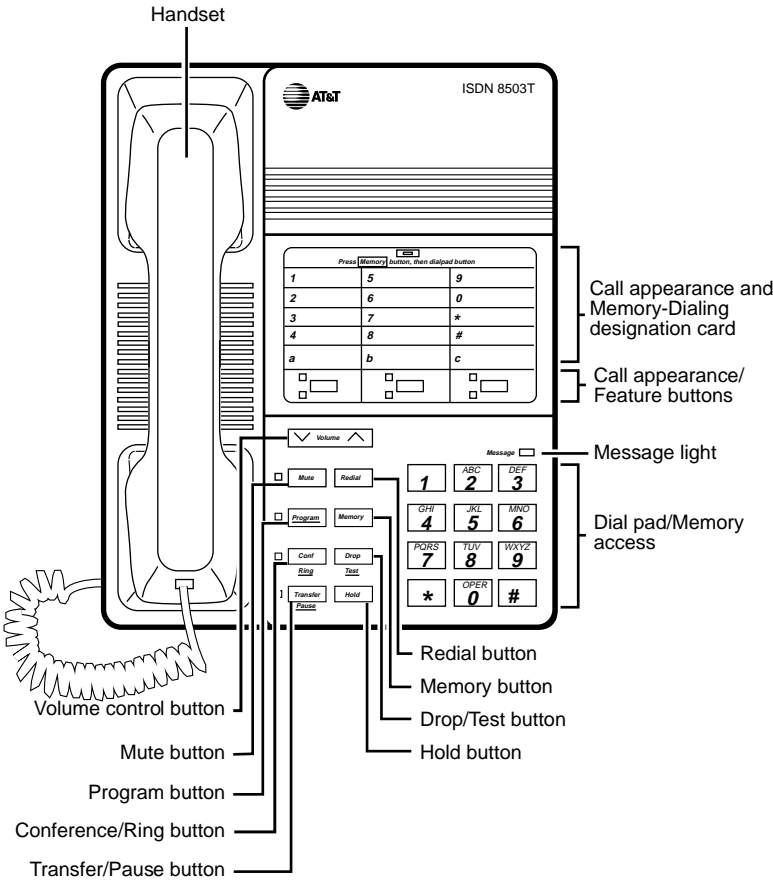
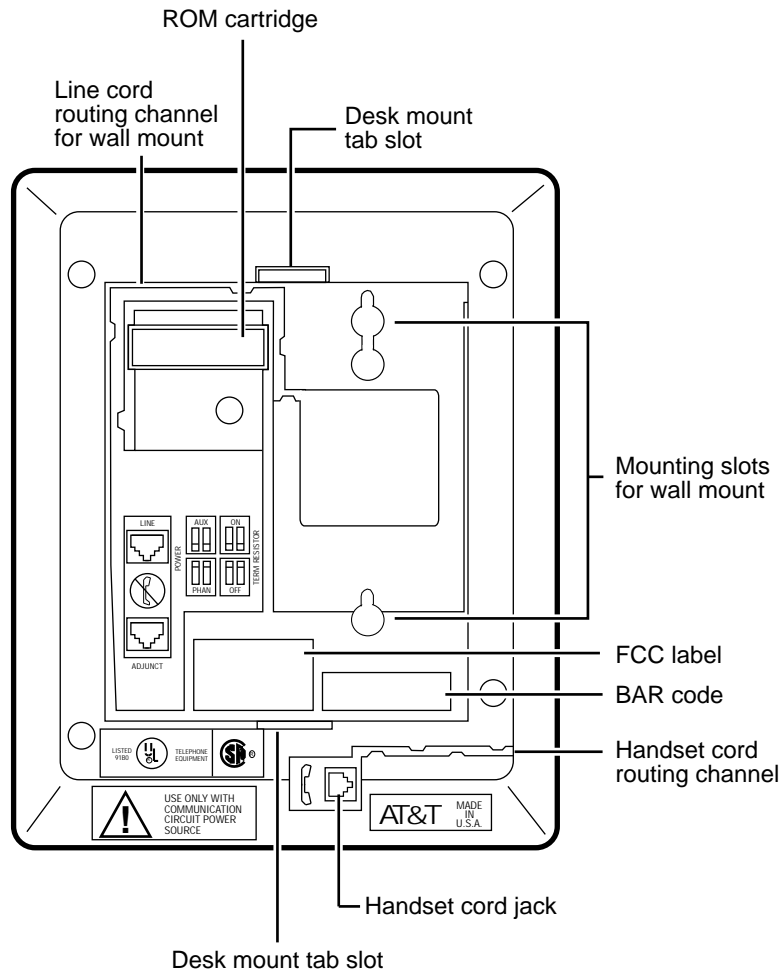
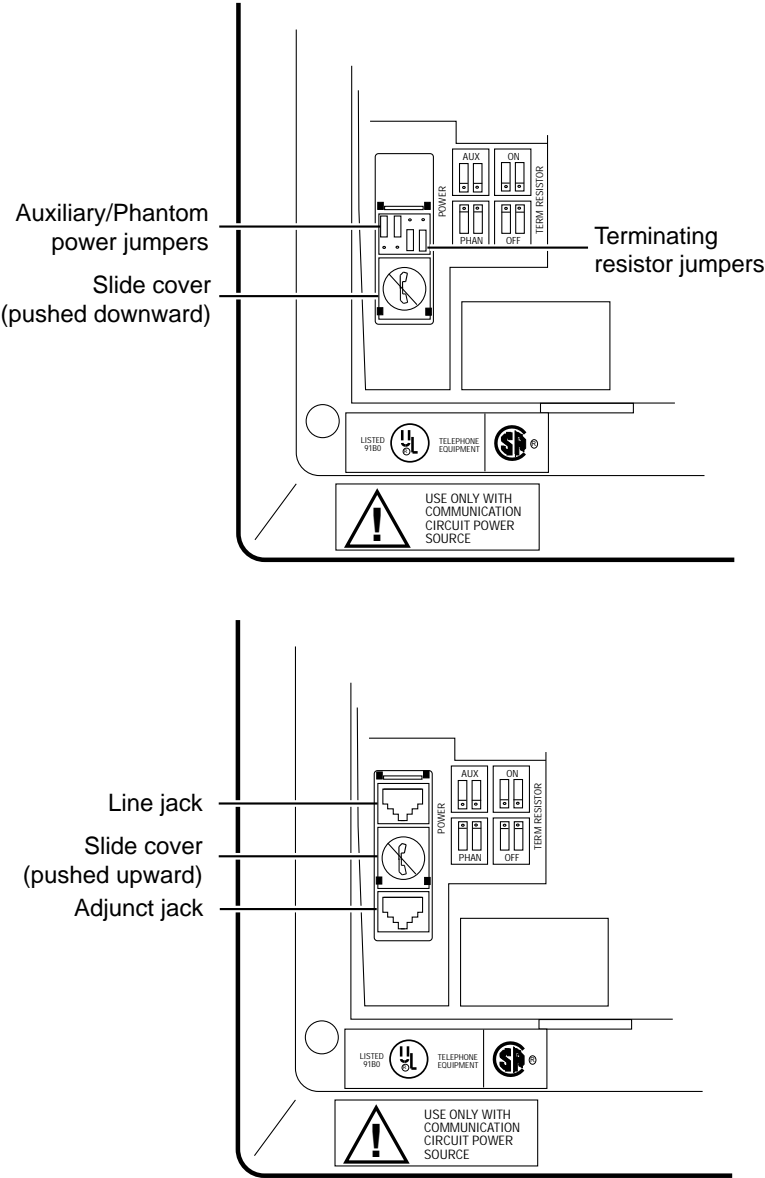

FIGURE 7-1. Front View of the 8503T Voice Terminal
FIGURE 7-2. Back View of the 8503T Voice Terminal (without Desktop Stand)
FIGURE 7-3. Back View of the 8503T Voice Terminal (Magnified)
Figure 7-1 shows you the front of the 8503T voice terminal. Figure 7-2 shows the back of the voice terminal without a desktop stand. Figure 7-3 shows a magnified view of the back of the voice terminal.
6. Snap one end of the 7-foot line cord into the Line jack and the adjunct cord (if applicable) into the Adjunct jack on the back of the voice terminal. See Figure 7-2 for the location of the jacks. For more information on installing adjuncts, refer to “Attaching Adjunct Equipment” later in this section (be sure you use the directions for the 8503T).
2. Snap the adjunct cord into the Adjunct jack until you hear a click. See Figure 7-2 for the location of the Adjunct jack.